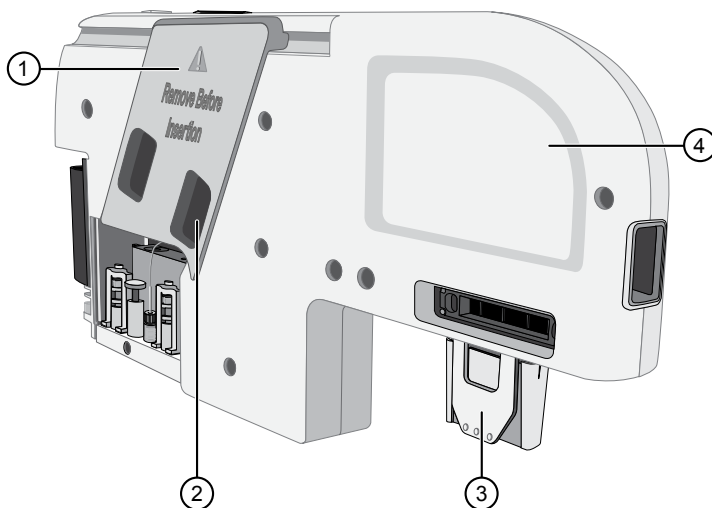

Figure 6 Cartridge with optical cover and Integrated Capillary Protector
- Is shipped with an optical cover and an Integrated Capillary Protector. See Figure 6.